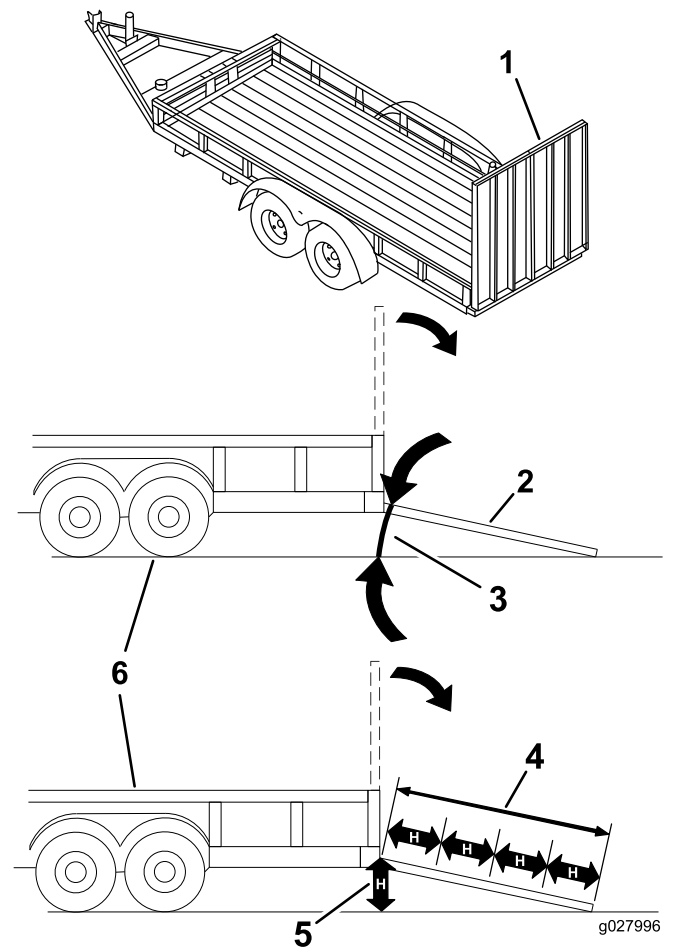

Figure 25
Loading a machine onto a trailer or truck increases the possibility of tip-over and could cause serious injury or death (Figure 25).
3. Lower the ramp, ensuring that the angle between the ramp and the ground does not exceed 15 degrees (Figure 25).
1. Lower the ramp, ensuring that the angle between the ramp and the ground does not exceed 15 degrees (Figure 25).